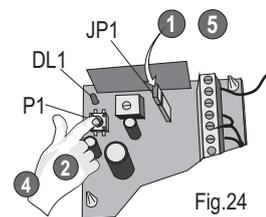

Fig.24
- 1 - Make sure that the jumper JP1 is inserted (fig.24).
- 5 - Insert the jumper JP1 (fig.24) in order to enable the automatic closure in CONDOMINIUM MODE.